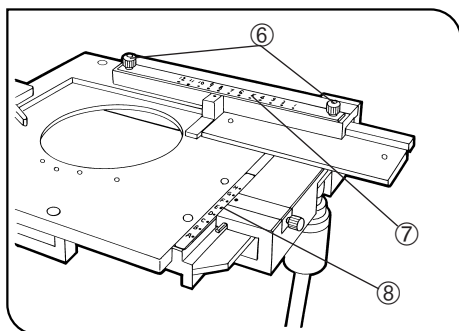

Fig. 87
1. Loosen the two clamping knobs ⑥ at the top of the stage's X-axis guide. Positioning the scale numerals correctly, plate the X-axis scale ⑦ on the guide. Then tighten the clamping knobs. (Fig. 87)
2. Positioning the scale numerals correctly, place the Y-axis scale ⑧ on the top of the stage's Y-axis guide. The scale will be held in place magnetically. (Fig. 87)